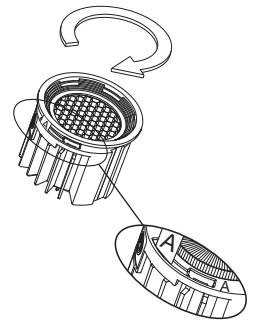

fig. 7
5. Attach the holder to the new module with pinching the feet of the holder and inserting them into the larger part of the sliding opening holes. Then rotate the holder clockwise to secure it. (fig. 7)